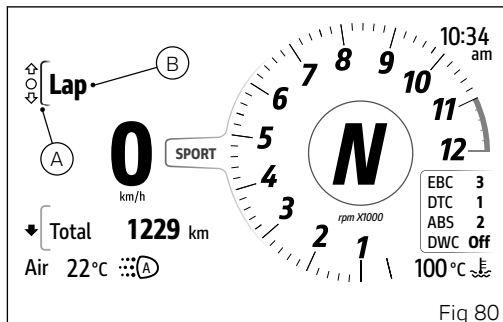

Fig 80
- Select the Interactive Menu (A, Fig 80) by pressing and holding button (1) pressed for a long time.
- Use buttons (1) and (2) to select item "Lap" (B, Fig 80) and press the ENTER button (3).